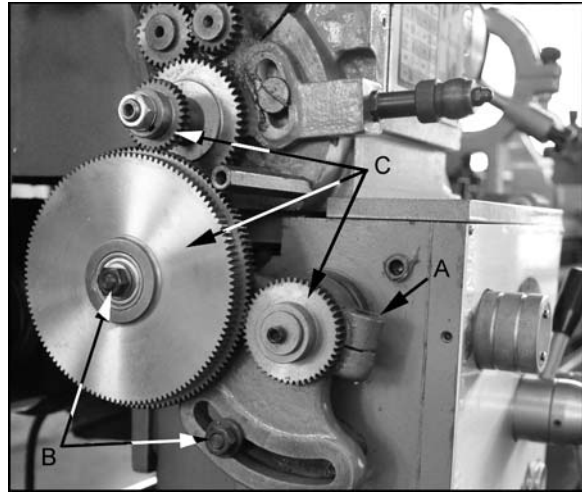

Figure 22
3. Loosen the socket head cap screw (A, Fig. 22) and hex nuts (B, Fig. 22). Move the quadrant out of the way.
4. Change gears (C, Fig. 22) to match the feed and thread chart.